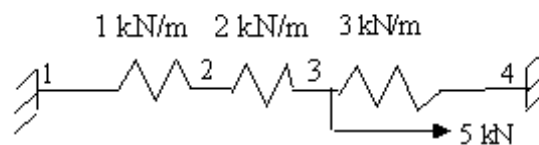

Figure 6:
- (b) Determine the displacements of nodes 2 and 3 of the spring system shown in Figure 6 below, by potential energy method. Assume nodes 1 and 4 to be fixed. [4+12]